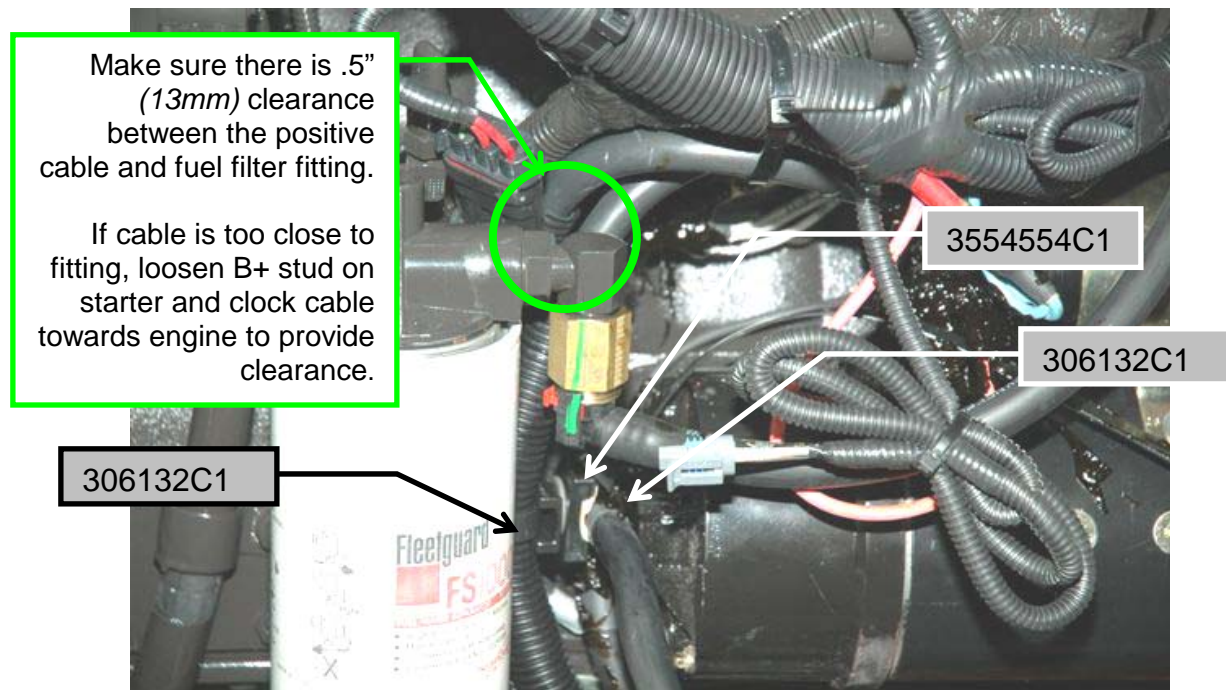

Figure 6 – Cummins ISM w/Fuel Filter
12. For Cummins ISM engines with fuel filter please see Figure 6.